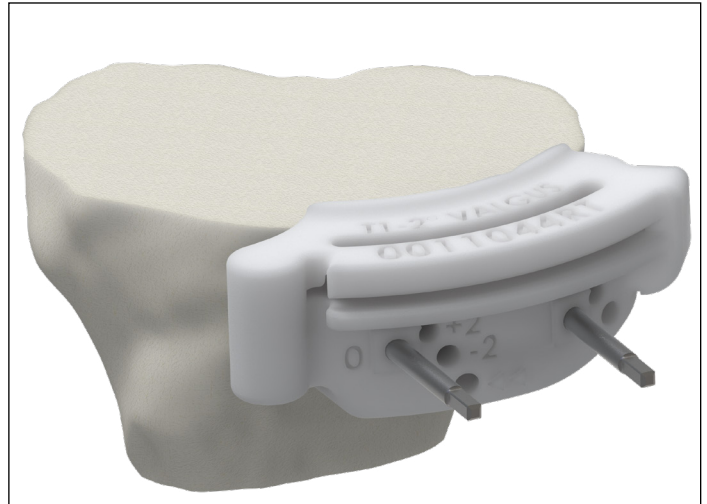

Figure 22. T1VG guide placed over pins at “0” holes
3. If the knee is tight laterally in both flexion and extension, use the 2 degree T1VG Valgus Adjustment Guide (**Figure 22**). Locate pin-holes created from the T1 guide and place pins into those same holes. Slide the T1VG guide onto the pins at both “0” pin-hole positions. This tibial valgus cut may create valgus limb alignment in extension and flexion. Additional 2mm resection depth on plane with the 2 degree valgus angle is available by placing T1VG onto pins at both “+2” pin-hole positions.